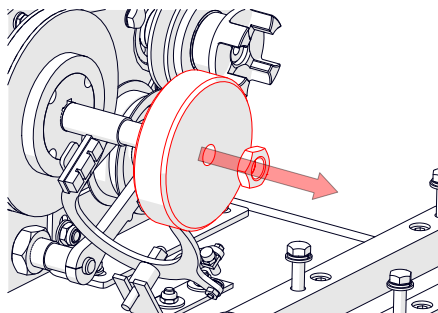

Fig. 14F - Remove brake disc.
7. Remove the brake disc [24 mm spanner] (Fig. 14F).